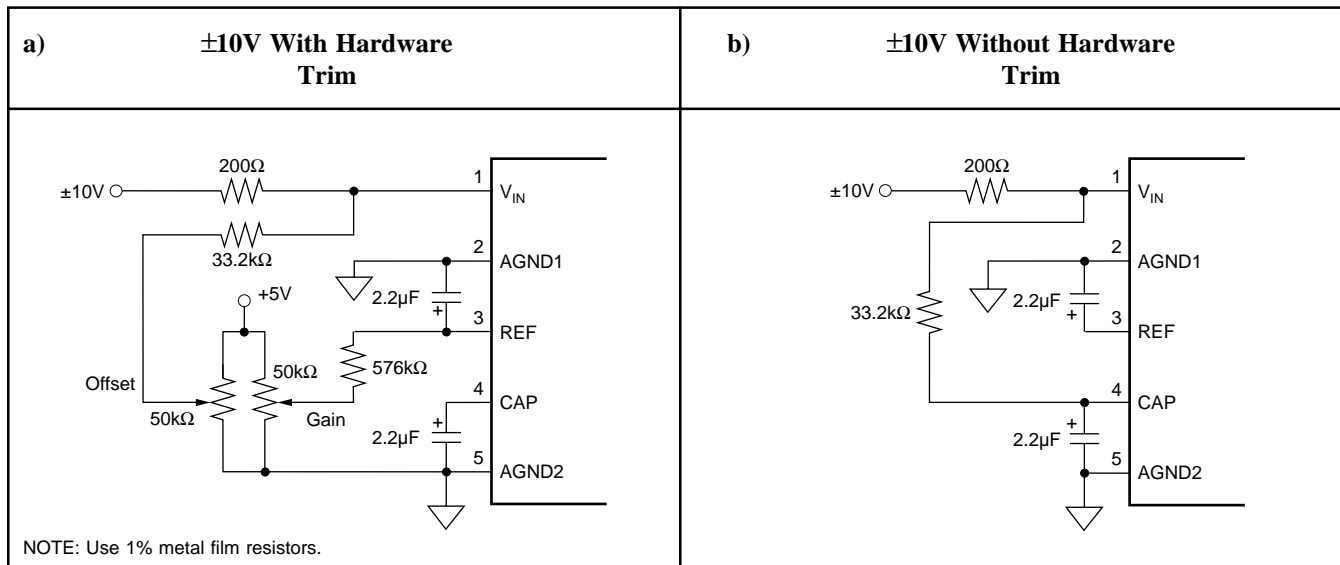

FIGURE 6. Circuit Diagram With and Without External Resistors.
The ADS7804 offers a standard  $\pm 10\text{V}$  input range. Figure 6 shows the necessary circuit connections for the ADS7804 with and without hardware trim. Offset and full scale error(1) specifications are tested and guaranteed with the fixed resistors shown in Figure 6b. Adjustments for offset and gain are described in the **Calibration** section of this data sheet.